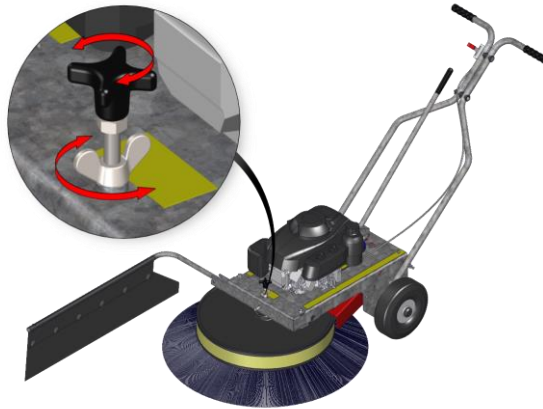

Fig. 25: WR 870 brush adjustment
1. Loosen the wing nut in accordance with Fig. 25.